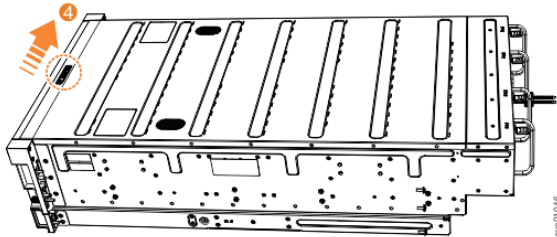

Figure 80. Locking the top cover
5. Lock the cover into position by sliding the release lever **4**, as shown in Figure 80 on page 67